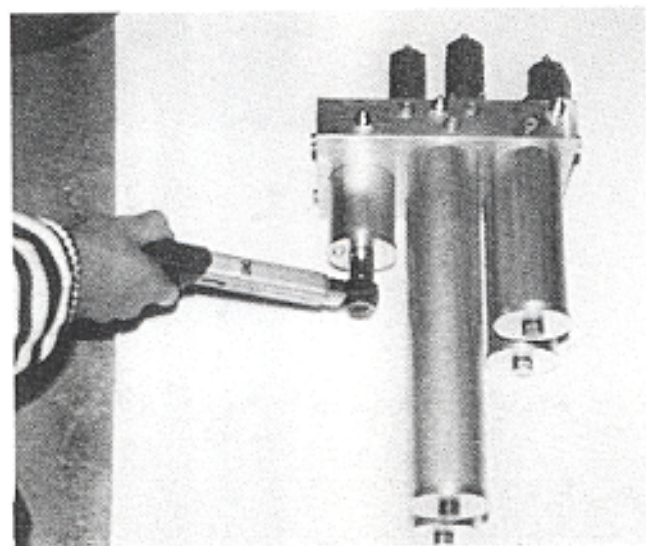

Fig. 16
- Change of filters is done by unscrewing the rodshaped bolts (fig 16) and exchanging the drying medium, oil filter and gaskets.